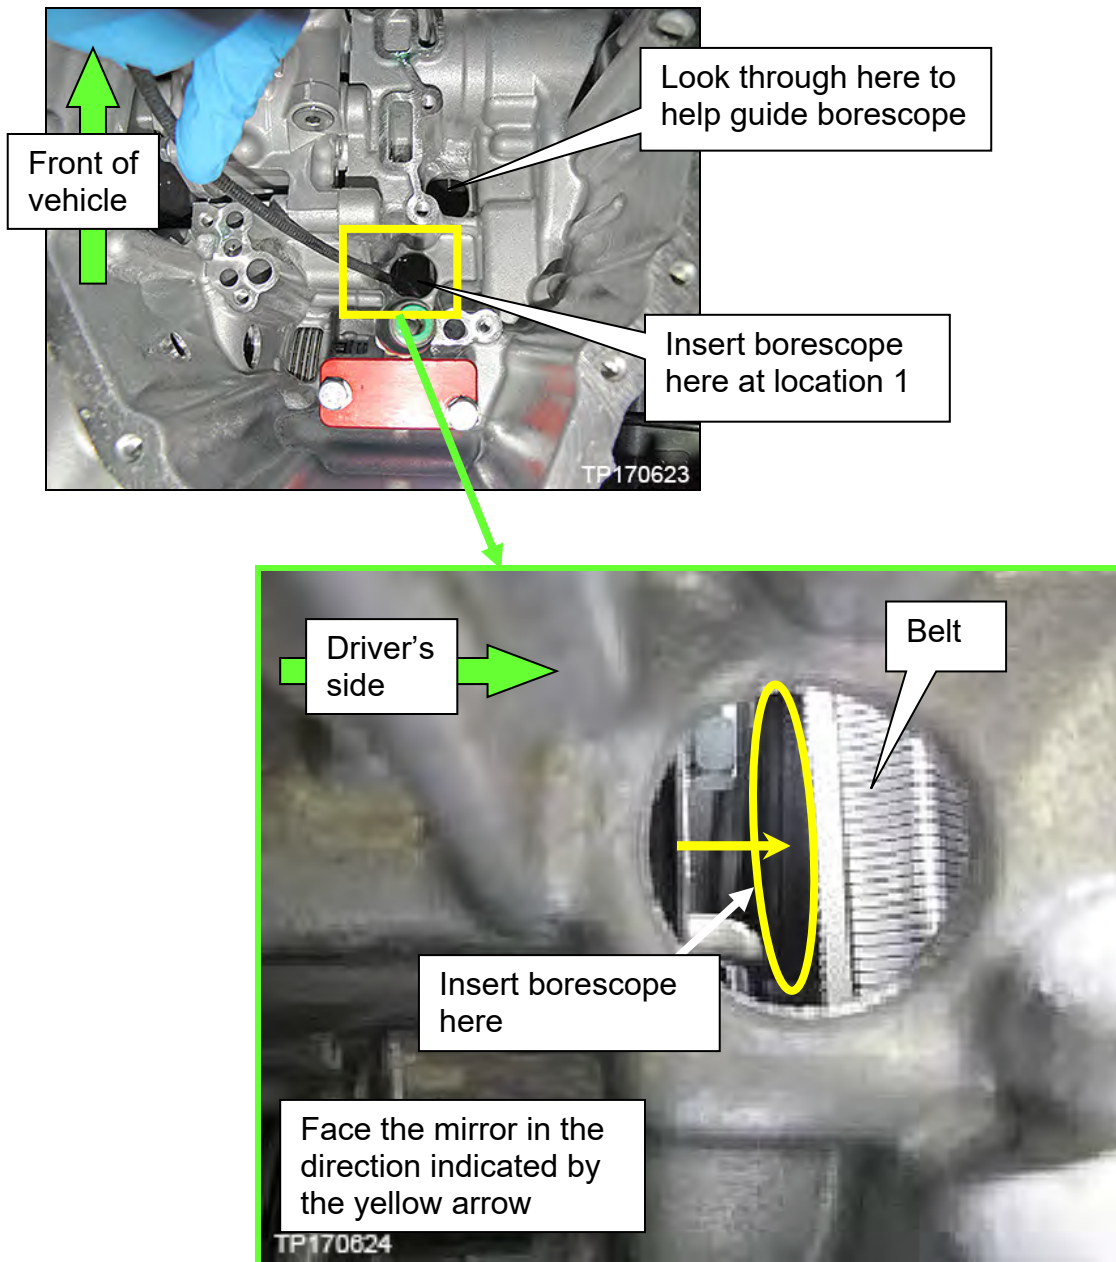

Figure 5C
- c. Insert the borescope where shown in Figure 5C as follows: